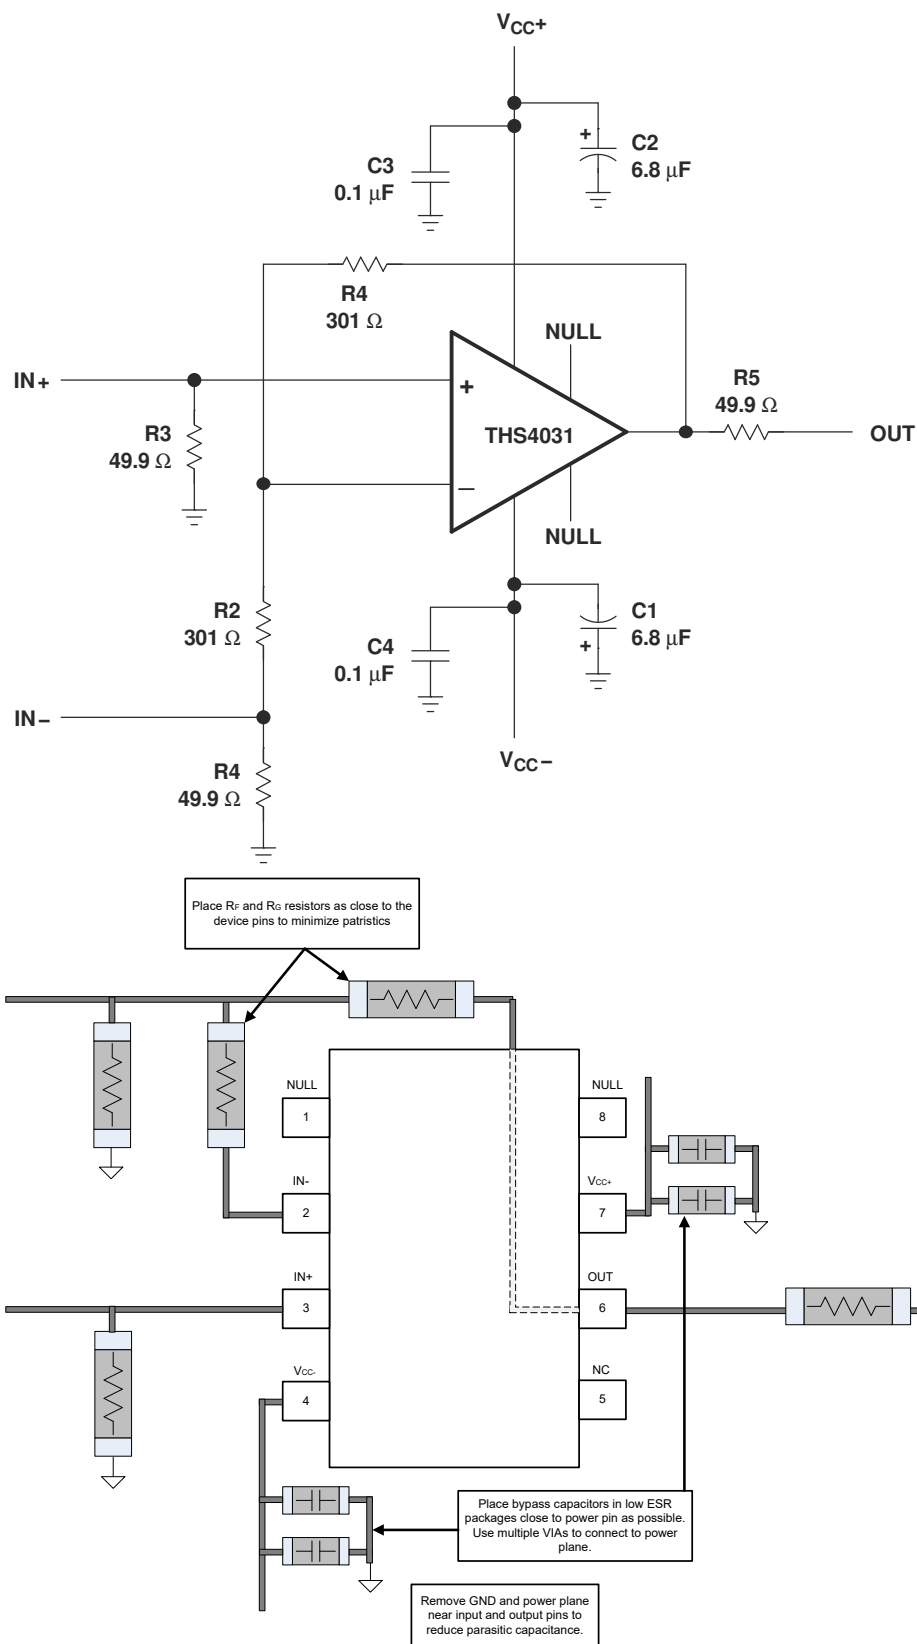

**Figure 7-10. PowerPAD™ PCB Etch and Via Pattern**
1. Prepare the PCB with a top-side etch pattern as shown in Figure 7-10. There must be etch for the leads as well as etch for the thermal pad.